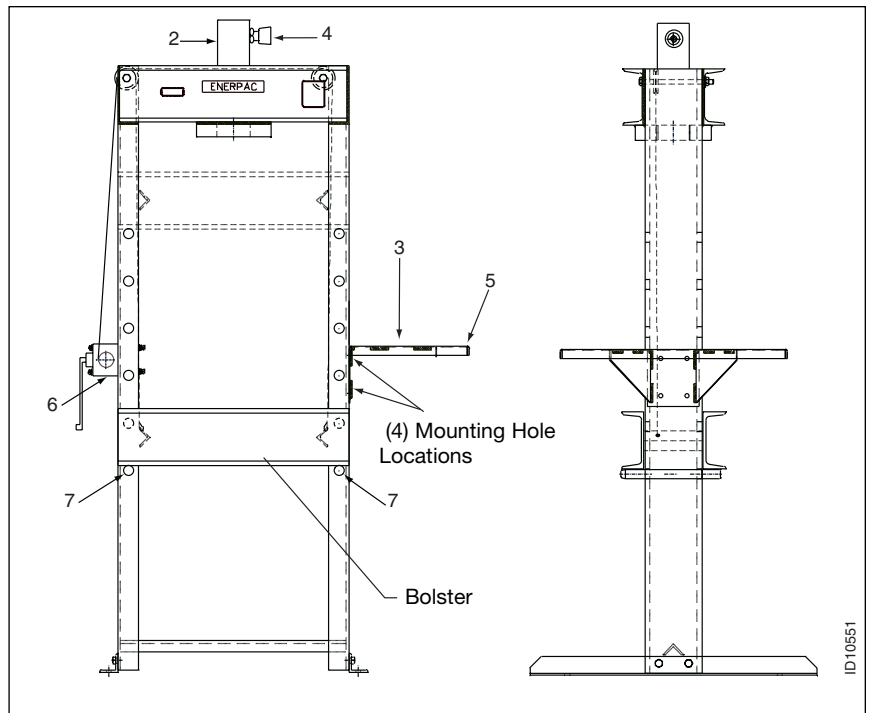

Figure 1, VLP Press Assembly
3.0 INSTALLATION (Refer to Figure 1)